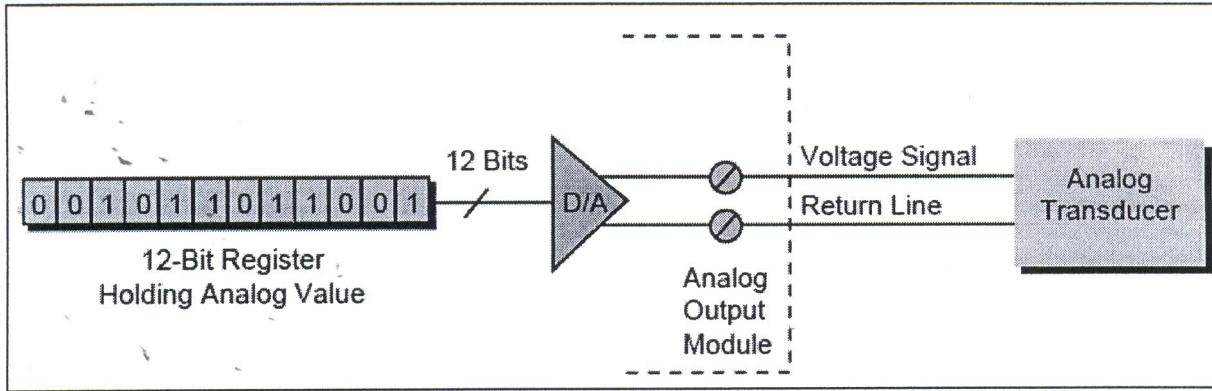

Figure 3 : Digital register to analog conversion
- (b) Based on the **Figure 3**, draw the graph for the following digital to analog conversion :